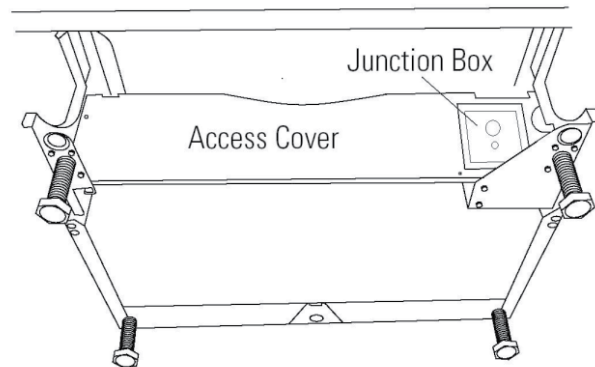

FIG 11
- 1 Remove the four (4) screws at the front of the access cover. See Figure 11.